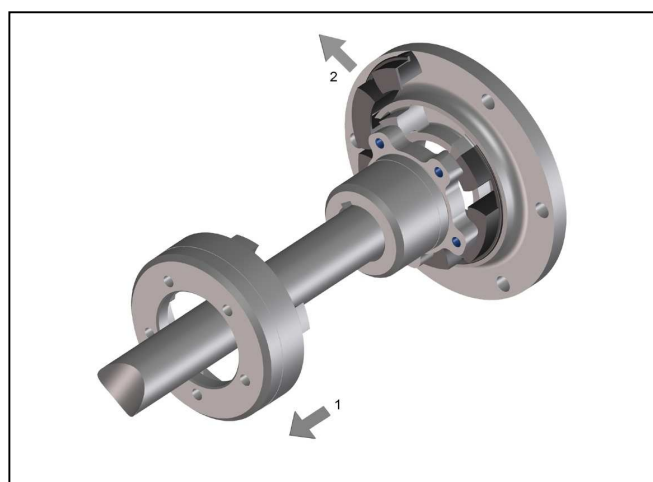

Fig. 13
- Remove the fastening screws at the claw ring and push it away from the buffer ring (Fig. 13, pos.1)
- Cut through the buffer ring at one of the connecting webs (Fig. 13, pos. 2).